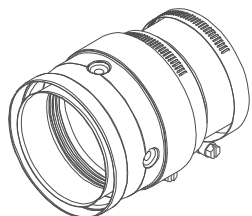

Fig 8 - Appliance Adapter (AA)
Different Appliance Adapters are used to connect the flue collar of the appliance to Model UPP vent system (see Fig. 8). UPP lengths and components are available in black or unpainted. The Appliance Adapter (AA) has two adjustable hose clamps on the inlet end to connect to the flue collar without the use of supplemental screws. Apply high temperature silicone sealant to the flue collar and slide the Adapter over the flue collar. Tighten the hose clamps, sealing the Adapter to the appliance. The Harman Appliance Adapters come in 2 styles; one is an outside fit over the flue collar (HAA1) and the other is an inside fit into the flue collar (HAA2). High temperature silicone is also needed. Also available is an Adapter to connect to our Direct-Temp for Pellet Vent system. See instructions supplied with DT for Pellet.